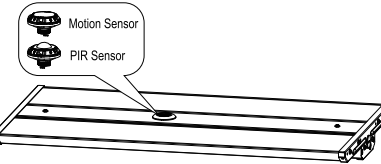

Figure 16
Step2. Twist-lock the DC sensor to the base to make it work properly, use a remote control to adjust the working mode as per demand.(Figure 16)